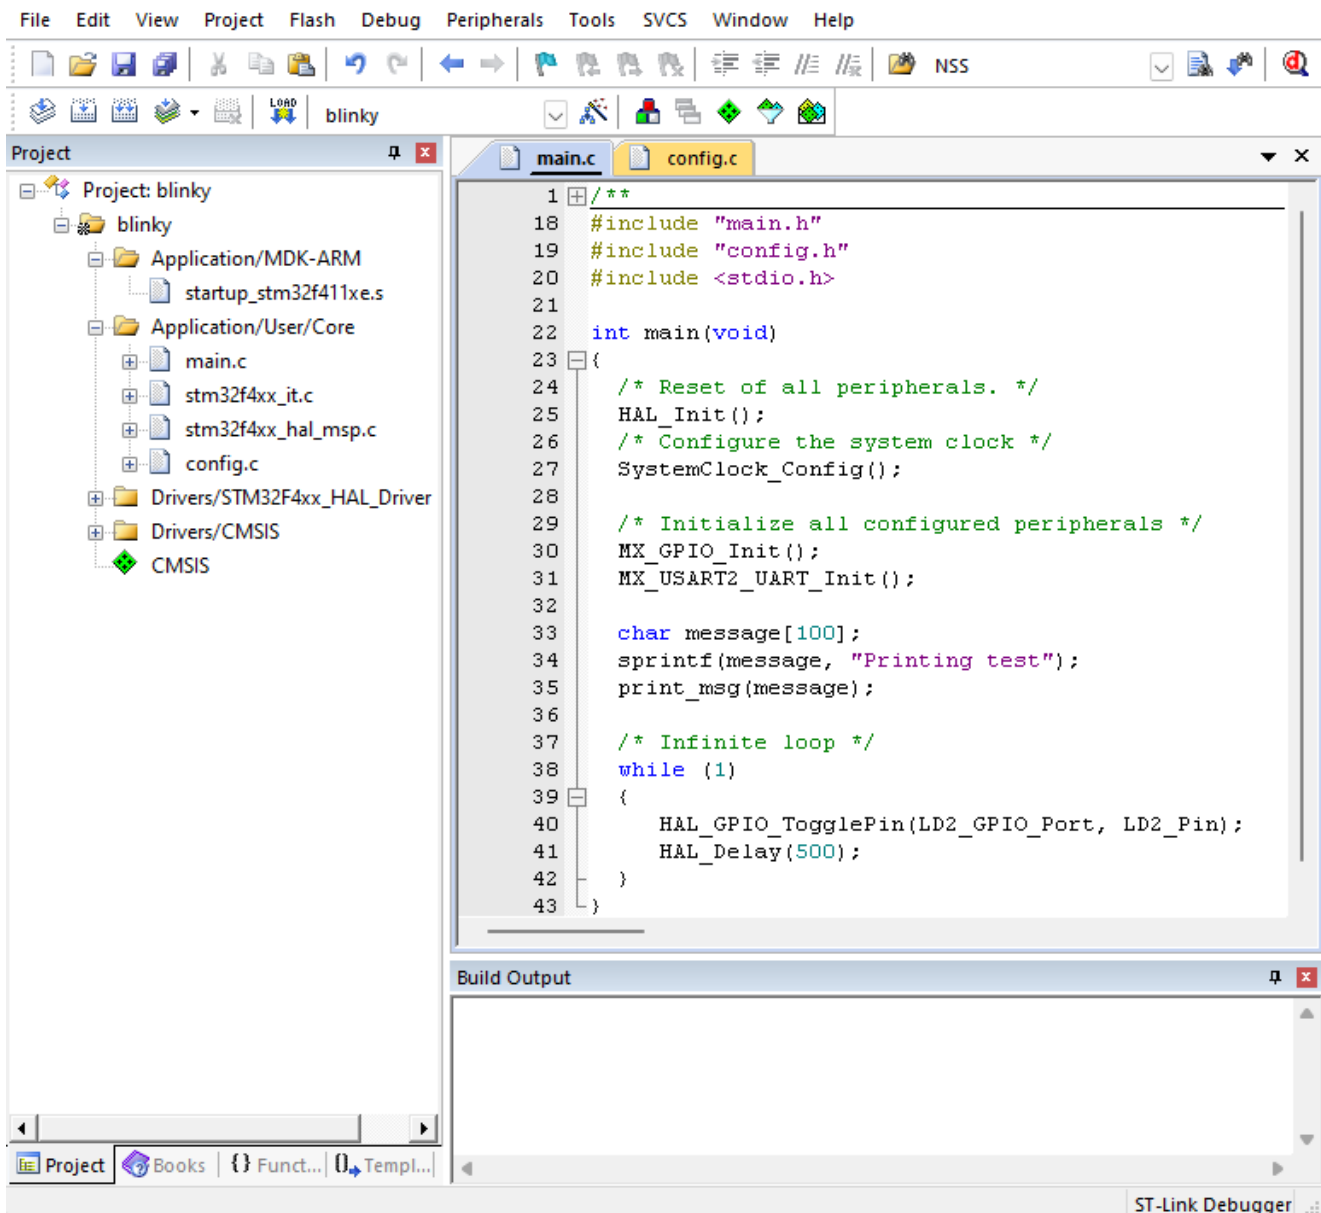

Figure 1. The Keil  $\mu$ Vision IDE showing the *blink* program.
**Understanding the provided code:** Figure 1 shows the Keil  $\mu$ Vision IDE, with *main.c* open. After including the necessary header files, *main.c* has prototypes for functions declared later in the file. In *main()*, there are several functions with initialize different board peripherals. We won't go into the specifics of each of them but to give you an idea of what each of them does (and to give you a preview of what you will learning throughout the course), they are: